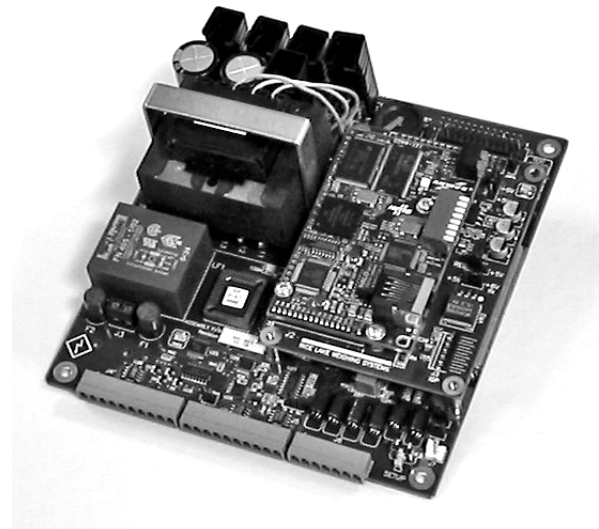

Figure 2-5. Option Installed 520 CPU Board
3. Carefully align the large option card connector with connector J2 on the CPU board (see Figure 2-5). Press down to seat the option card in the CPU board connector.